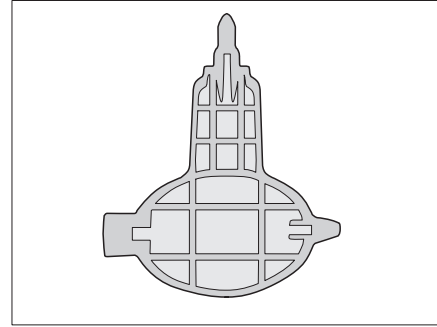

Fig. 345 Key for Siphon (only Alpa)
- ▷ The Alpa model has a key (Fig. 345) enclosed for the releasing the siphon.